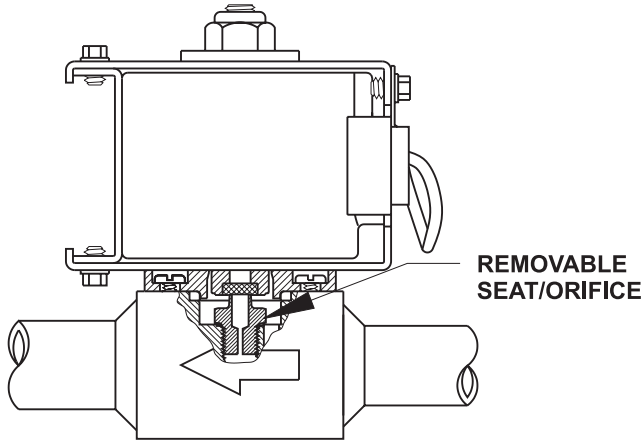
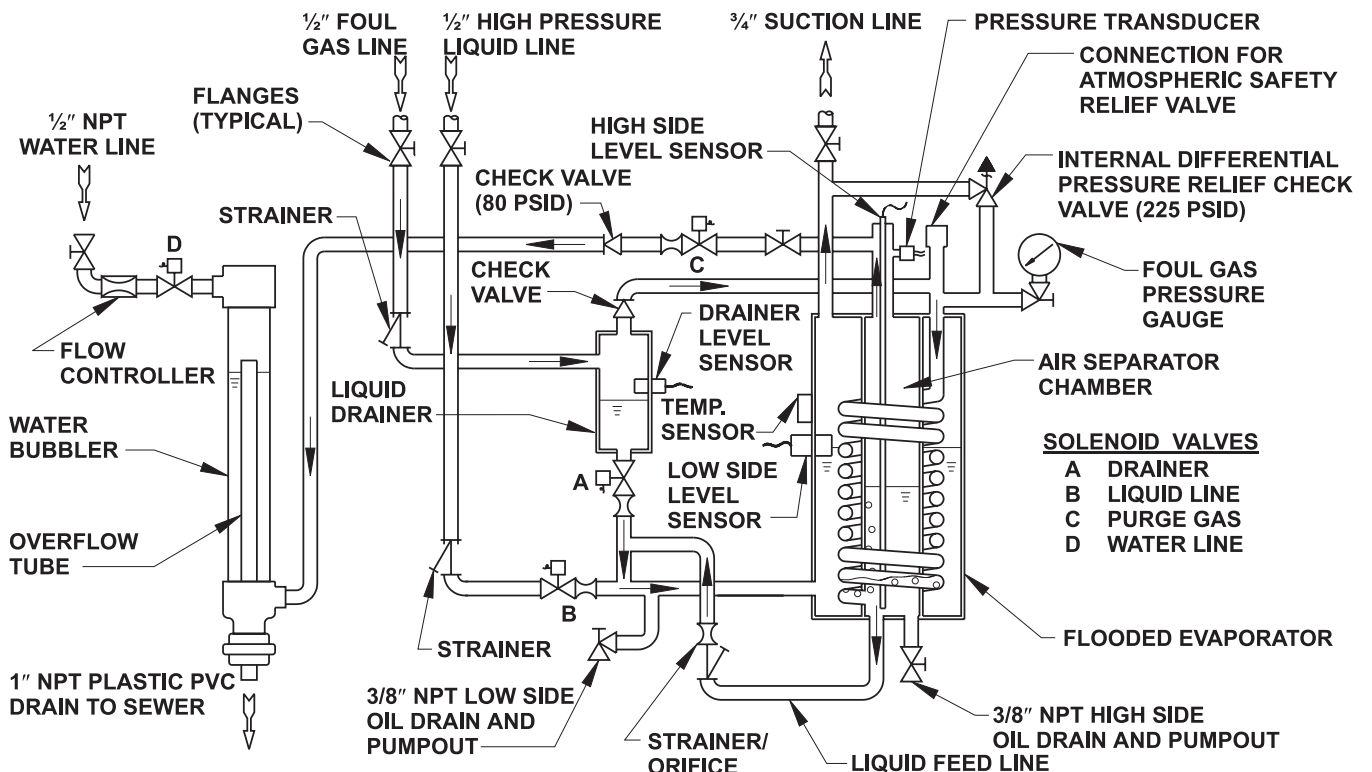

Figure 8.
Figure 11.
The purging log is displayed on the digital readout. It displays the number of minutes the purge gas solenoid valve (C) (see Figure 11) has been open to release noncondensibles into the water bubbler.
The APM is equipped with four solenoid valves. These are: the liquid drainer solenoid valve (A), the liquid line solenoid valve (B), the purge gas solenoid valve (C), and the water solenoid valve (D). See Figure 11. With the exception of the water solenoid valve, each is directly welded in-line and has a stainless steel removable seat/orifice (see Figure 8). The removable seat/orifice facilitates easy access to the orifice for inspection or replacement. If necessary, the water solenoid valve (D), whose brass body has threaded ends, can easily be replaced or parts thereof changed.